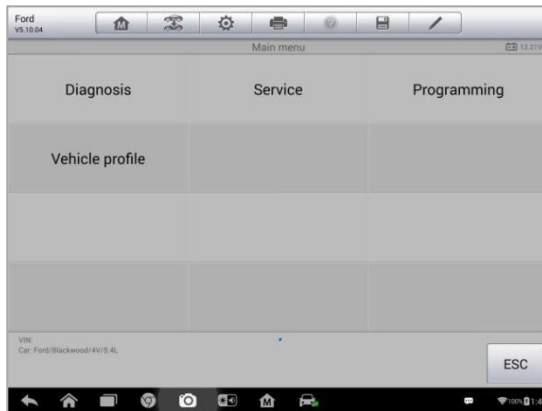

Figure 4-2 Sample Vehicle Diagnostics Screen
5. Tap **Done**. The vehicle will be identified in a few seconds, and once the matching is successful, the system will guide you to the Vehicle Diagnostics screen directly. (*Figure 4-2*)
The Vehicle Diagnostics screen (*Figure 4-2*) has 2 main options: